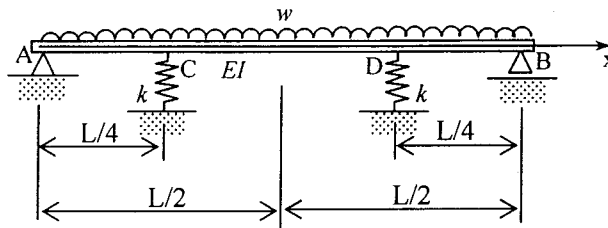

Figure 4
- (b) Figure 4 shows a simply supported beam with two elastic springs at C and D. The beam is subjected to a uniformly distributed load  $w$ . The following expression for lateral displacement field  $v$  has been suggested :